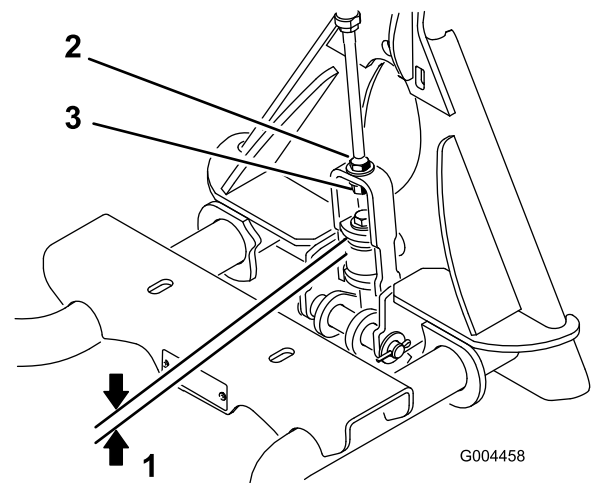

Figure 7
2. Measure the gap between the top washer and the spacer in the link assembly on the attachment adapter as shown in Figure 7.
Note: The gap between the washer and the shoulder should be 0.060 to 0.080 inch (.15 to .20 cm) (Figure 7).
3. If the gap is not correct, loosen the jam nut and tighten or loosen the adjustment nut on the link assembly as needed to change the gap (Figure 7).